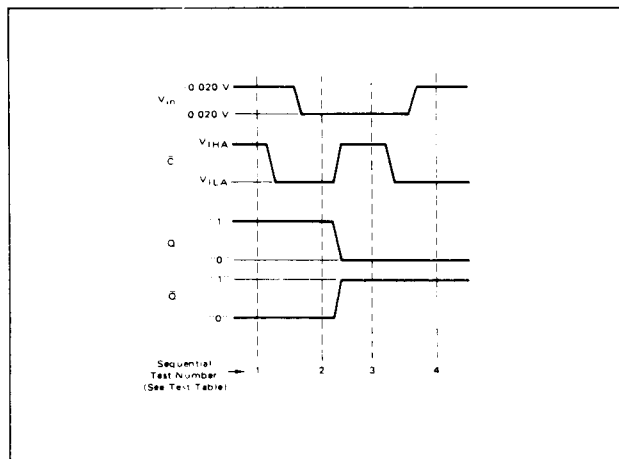

Fig. 6 Logic threshold tests (waveform sequence diagram)
(2) These tests done in order indicated. See Figure 6.
(3) Maximum Power Supply Voltage beyond which device life may be impaired: